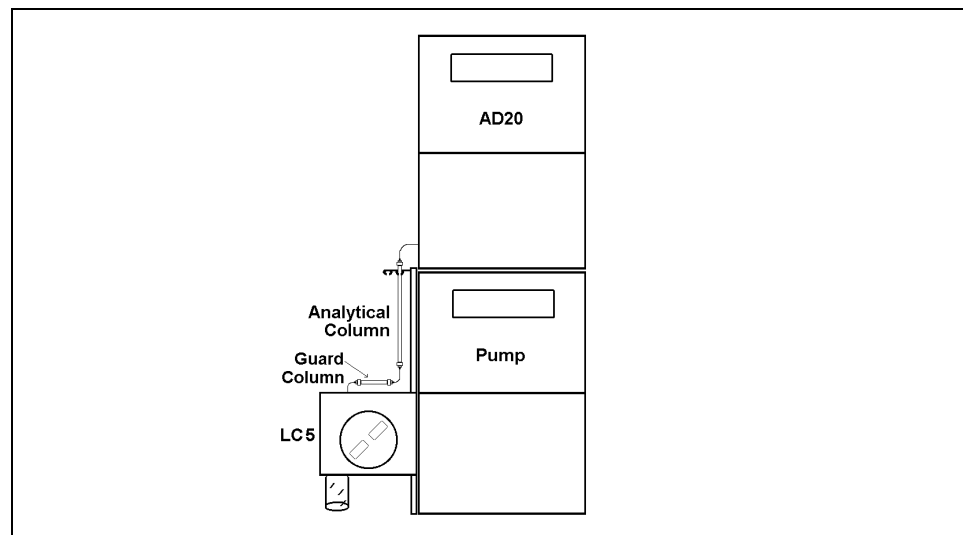

Figure 2-1. LC5 System Configuration
These instructions describe how to install the LC5 in a system that includes an AD20 Absorbance Detector with a GP40 Gradient Pump or IP20 Isocratic Pump. Figure 2-1 shows a typical system configuration.
7. Snap the separator column into the column clip on the LC5. The guard column “floats” below the separator columns, held in place only by the connecting tubing (see Figure 2-1).